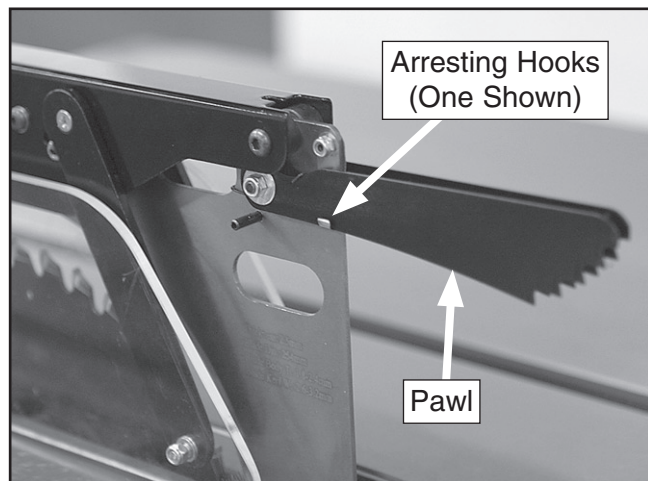

Figure 43. Pawl disabled.
2. Rotate one or both arresting hooks downward, then place the pawls on each of the hooks, as shown in **Figure 43**.